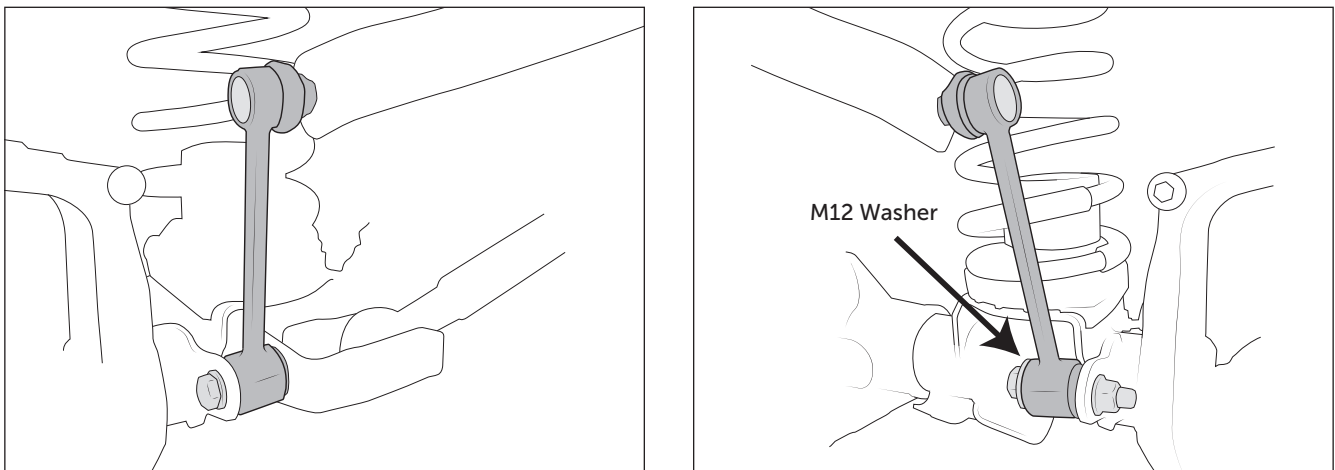

Figure 19
- A. For each side attach the upper end stud to the sway bar in the same manner as the original front links had been (nut on frame side of bar). NOTE: The upper stud has a different thread than the rest of the M12 fasteners in the suspension—it is a “standard” pitch versus a “fine pitch.” Tighten to 40 ft-lbs. (Fig. 19).
- B. The lower ends of the links will attach in the factory location using the original hardware, with AEV-provided washer added to the inboard side of driver side link only (Fig 19). Washer is not needed on passenger side because it has brackets on both sides of bushing. Torque to 40 ft-lbs. NOTE: Later model year vehicles already come with a large washer on the driver side, in this case the AEV provided washer is not necessary.